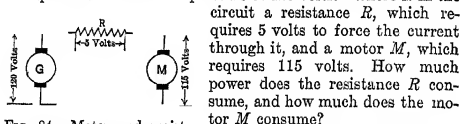

Fig. 84. Motor and resistor in series with generator.
**Example 4.** A generator  $G$ , Fig. 84, is furnishing a current of 4 amperes to the line at a pressure of 120 volts. There is in the